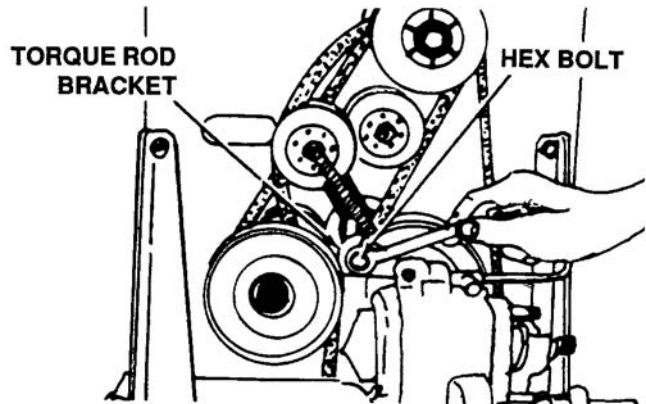

Figure 7-14. Location of Hex Bolt
6. Remove the hex bolt which holds the torque rod bracket to the torque rod and remove bracket. See Figure 7-14.